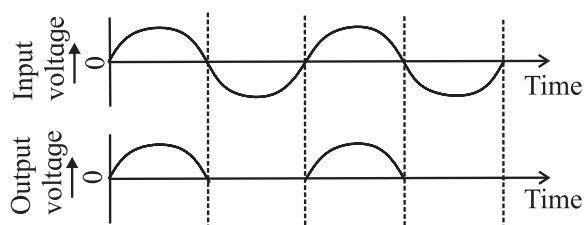

Fig. 16.3: Waveform of input and output signals for half wave rectifier.
The secondary coil AB of a transformer is connected in series with a diode D and the load resistance R_L . The use of transformer has two advantages. First, it allows us to step up or step down the AC input voltage as per the requirement of the circuit, and second it isolates the rectifier circuit from the mains supply to reduce the risk of electric shock. The AC voltage across the secondary coil AB changes its polarities after every half cycle. When the positive half cycle begins, the voltage at the point A is at higher potential with respect to that at the point B, therefore, the diode (D) is forward biased. It conducts (works as a closed switch) and current flows through the circuit. When the negative half cycle begins, the potential at the point A is lower with respect to that at the point B and the diode is reverse biased, therefore, it does not conduct (works as an open switch). No current passes through the circuit. Hence, the diode conducts only in the positive half cycles of the AC input. It blocks the current during the negative half cycles. The waveform for input and output voltages are shown in Fig. 16.3. In this way, current always flows through the load R_L in the same direction for alternate positive half cycles.